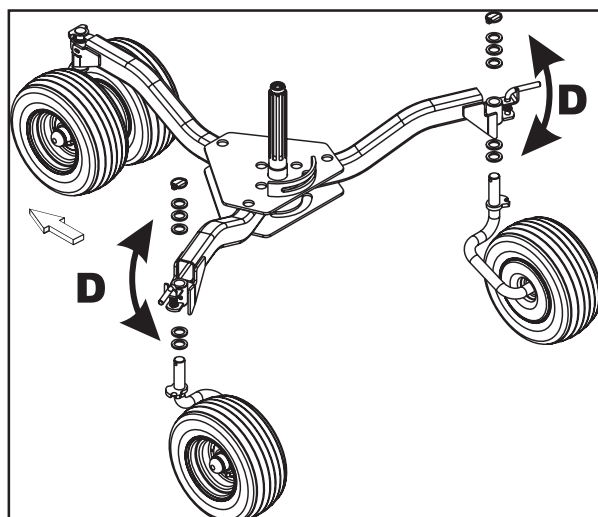

Fig. 4-3a
- Adjust rotor pitch by installing 5 mm shims (D) as required at the top or lower side of the axle support (fig. 4-3a).